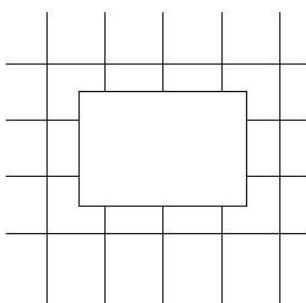

Fig 11
2. Select an object as trim reference, here we select the rectangle for example. (Fig 11)